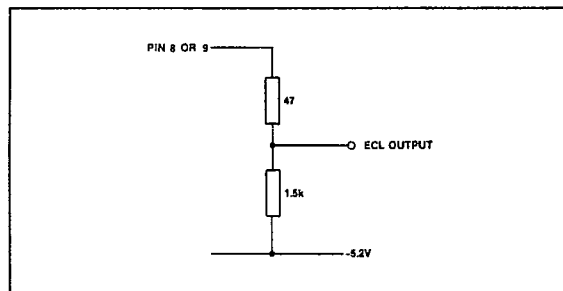

Fig.8 Interfacing to ECL 10K
2. The outputs are compatible with ECL II but can be interfaced to ECL 10K as shown in Fig. 8.